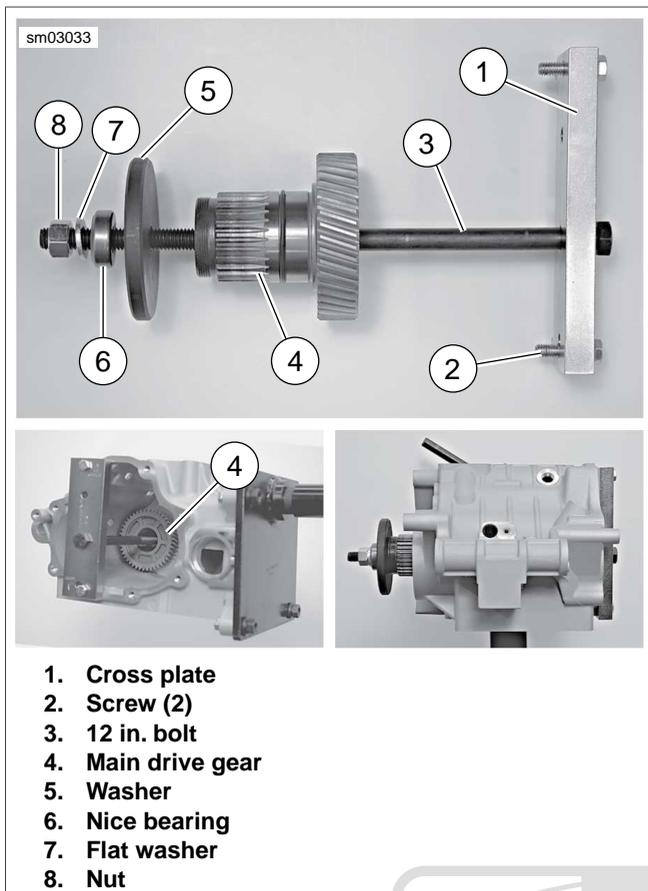

Figure 7-35. Removing Main Drive Gear
6. See Figure 7-35. Place CROSS PLATE (Part No. HD-35316-3A) (1) on right side of transmission case as shown, and secure with two screws (2). Position cross plate so